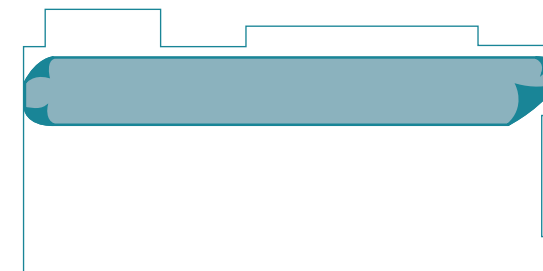

Figure 1 Lining up the First Sheet
- ▶ Adjust the lie of the sheet so that the inner edge is parallel with the axis of the room (Fig 1).